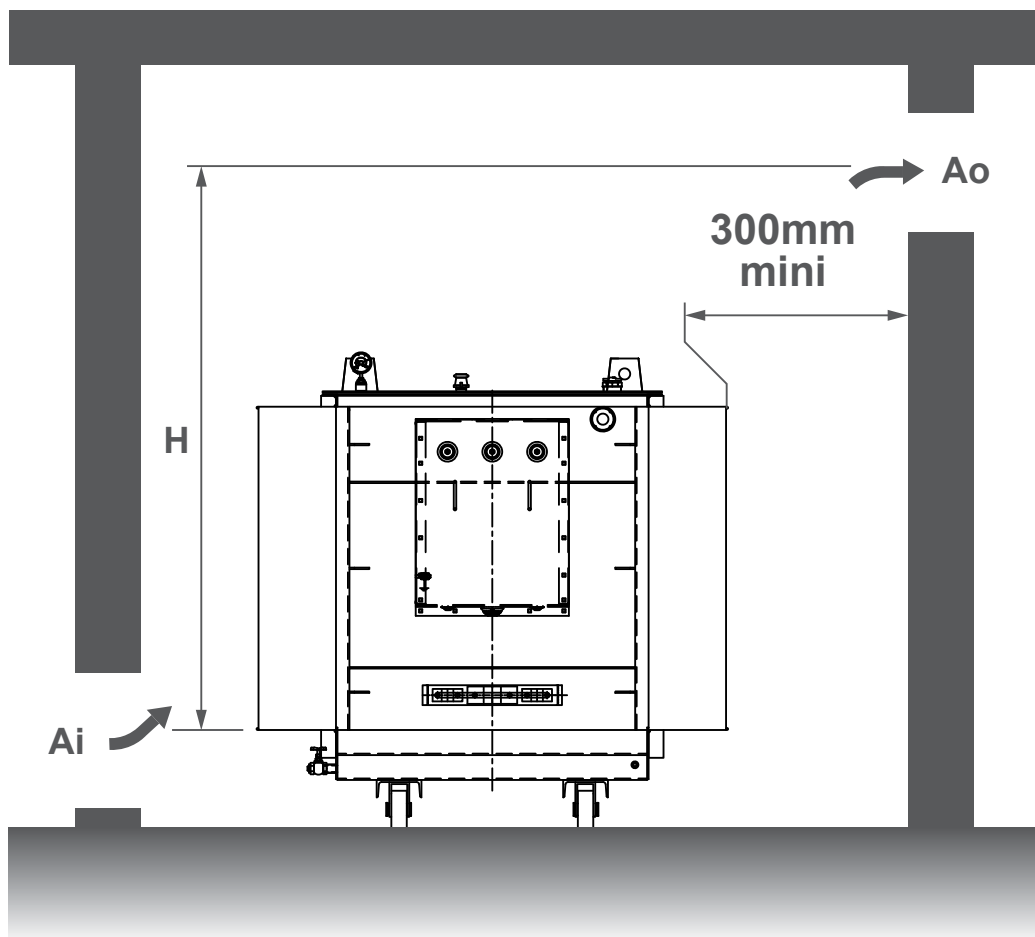

Figure 3
- **Calculation of height and cross-sectional area of ventilation wall opening (figure 3).**